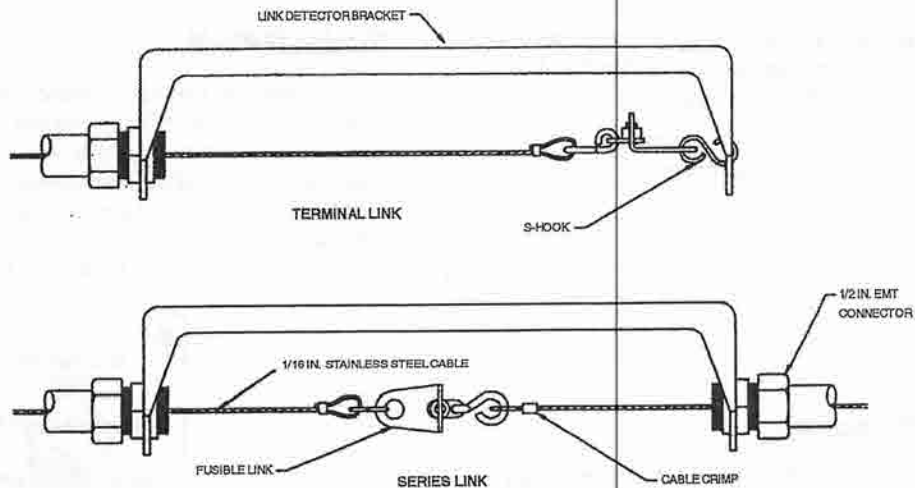

Figure 2-10. Model FLK-1 Fusible Link
- ▶ The Model FLK-1 fusible link kit includes a 10 in. steel bracket, two (2) 1/2 in. EMT connectors, two (2) cable crimps, and two (2) "S" hooks. Fusible links must be ordered separately. See Figure 2-10.